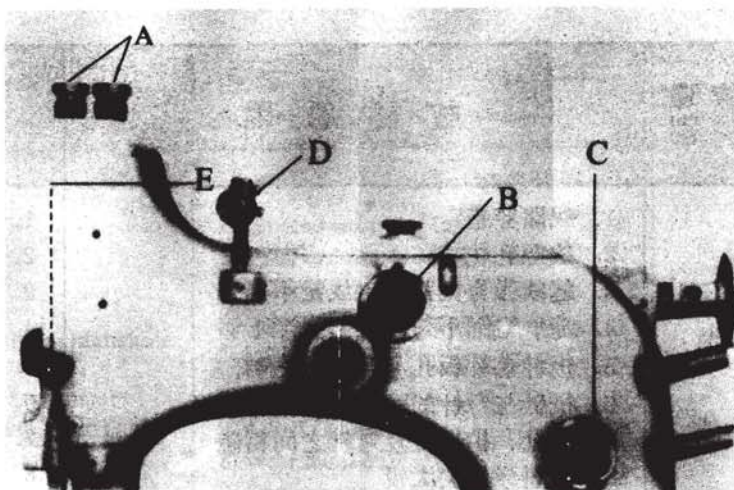

图 10 Fig.10
压脚压力的大小，取决于缝料的厚度，缝薄送料时顺减少压力；反之，则增大压力。当缝料推送顺畅，针迹均匀时切勿再增大压力，以减缓机件磨损。调节压力时旋进两只调压螺套（图10，A）可增大压力，旋出则减少压力。
缝线张力由夹线器(图10, B、C)调节, 通常面线(B)张力要比底线(C)的张力大。旋进夹线器螺母(B、C)使张力增大, 旋出则减少。
Thread tension is adjusted by thread tension assembly(B. C. Fig. 10). Tension of upper thread(B) is generally stronger. Than that of lower thread (C). Turn thread tensioner nut (B. C) in to increase the tension, turn it out to decrease the tension. If the stitch is still not good, should adjust the height of thread adjusting bar (D). The height of the thread adjusting bar (D) is at the same level with the thread eye of the needle bar connection at its highest position.